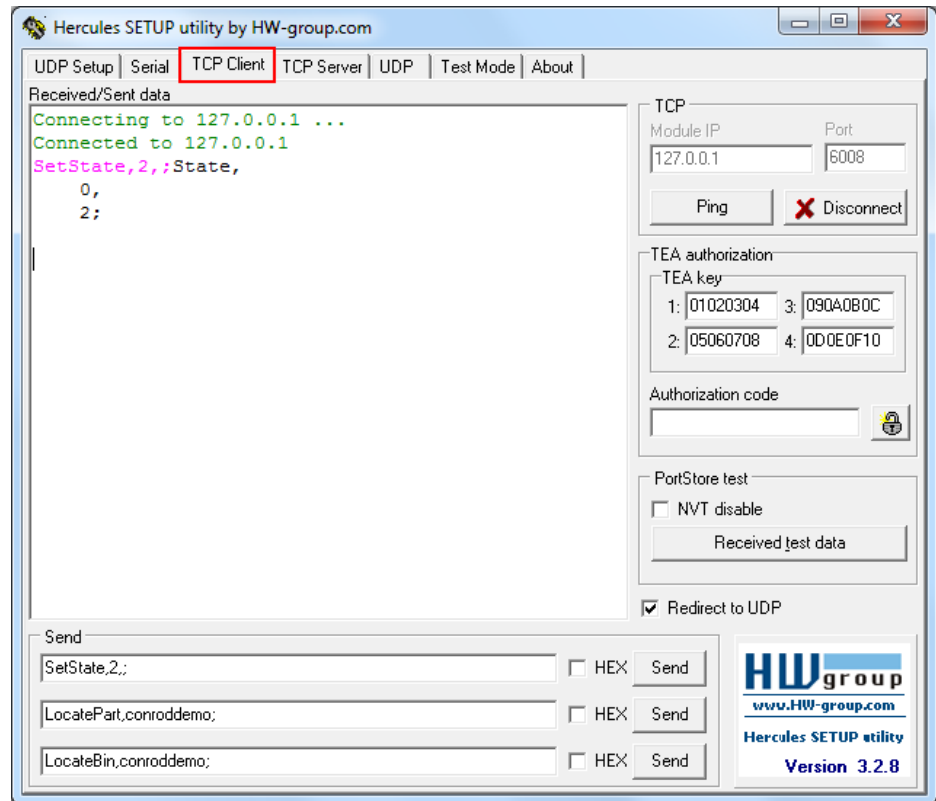

Figure 90: Testing robot-to-system communication
4. Open the **TCP Client** tab (see figure 90, page 102).